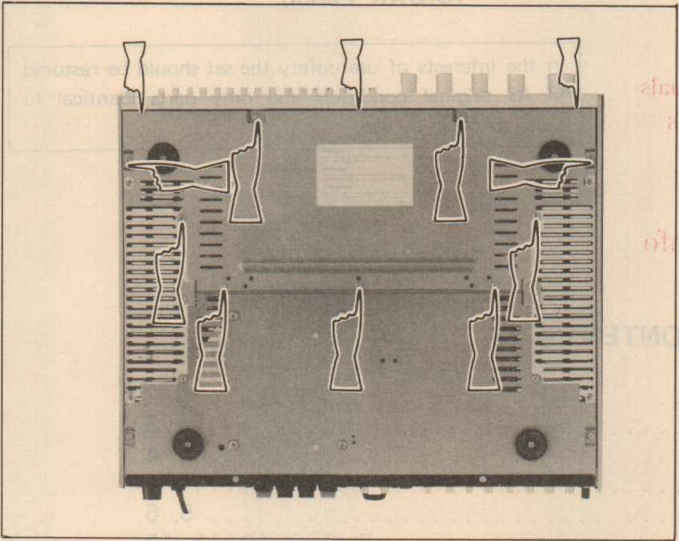

Figure 4-2
- 2) To remove the bottom lid: (See Figure 4-2)
- 3) To remove the front panel: (See Figure 4-2 and 4-3)